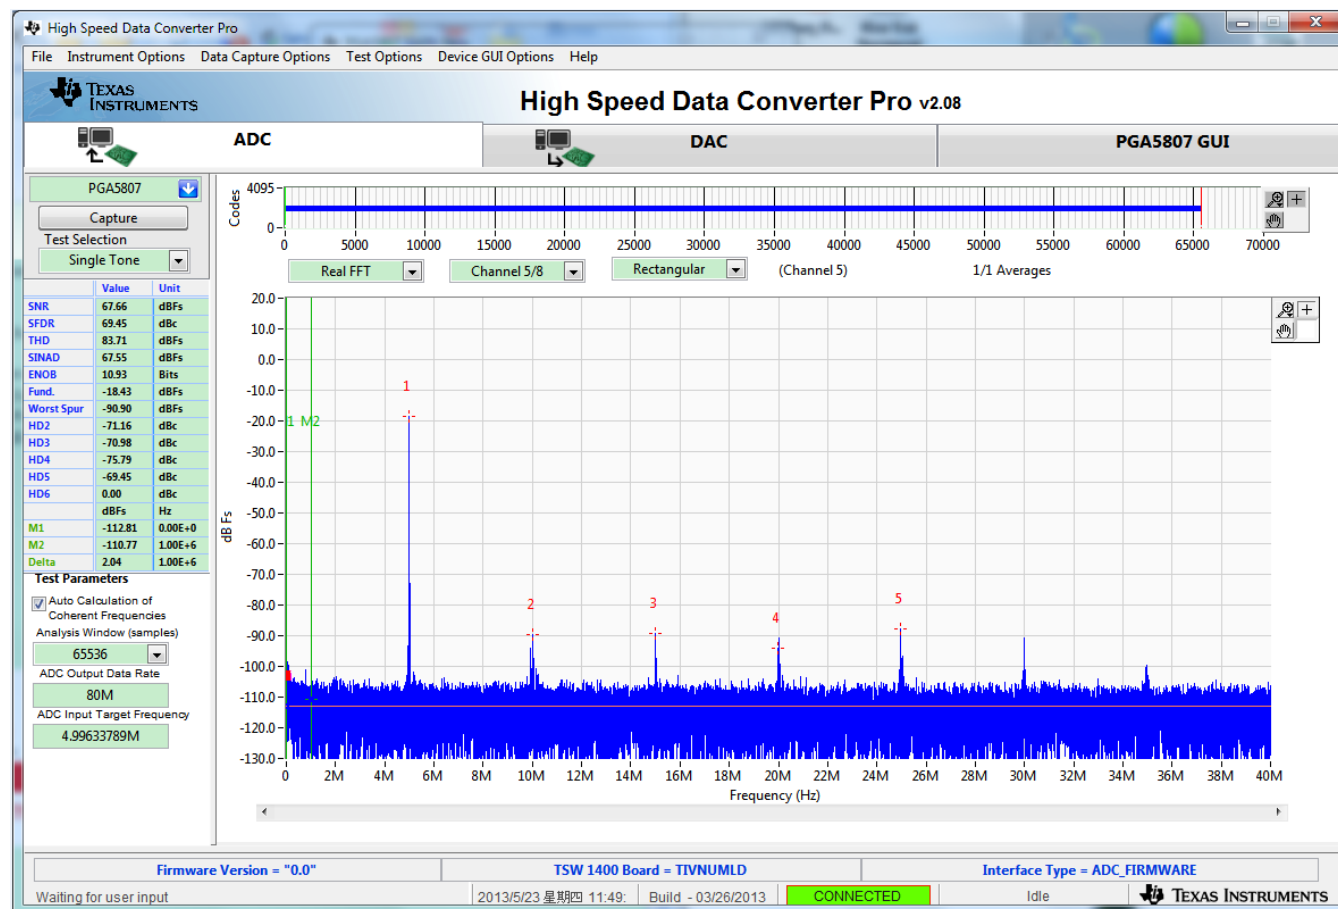

Figure 49. PGA5807+ADS5296 Gain Test Capture 3
- Click on the ADC tab and press the *Capture* button to see the result shown in Figure 49.